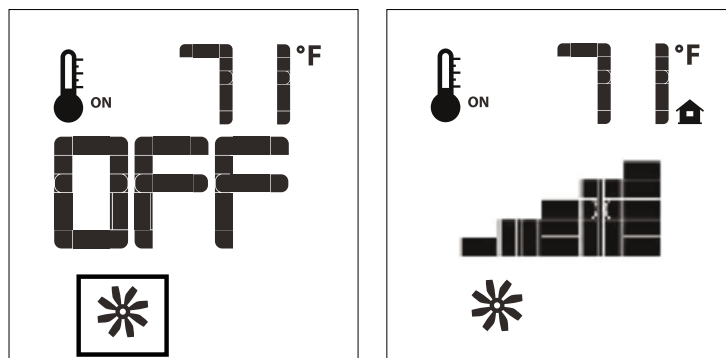

Figure 12: Fan Control
The Q1GI comes with a convection fan that can be controlled with the Transmitter. The fan speed can be adjusted through six (6) speeds. To control the fan press the MODE key (Figure 4) to index to the fan control icon (Figure 12). Use the UP/DOWN arrow keys to turn on, off, or adjust the fan speed (Figure 12). A single beep from the IFC will confirm the command has been received